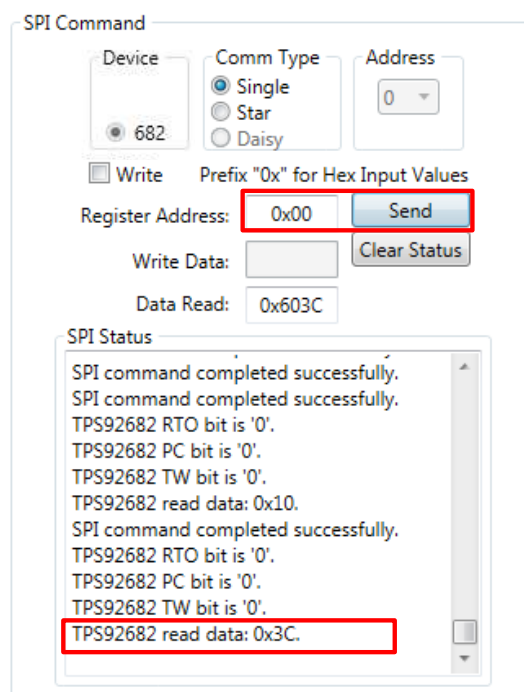

Figure 44. SPI Command Window
To ensure a connection from the board to the TPS92682-Q1 exists, perform the following steps as shown in Figure 44.
- Write the desired data in the box next to **Write Data:** as shown in Figure 44.